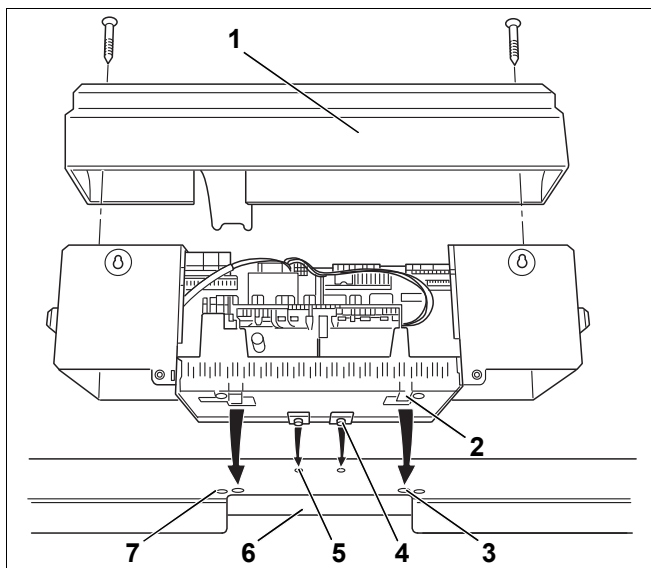
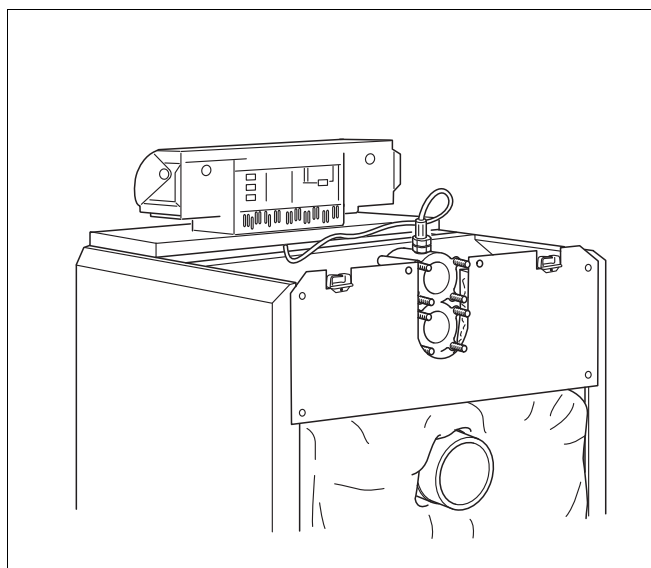

Fig. 43 Control unit installation
Fig. 48 Boiler with control unit installed
Fig. 43 shows the control unit and the front cover as viewed from the rear.
- Loosen both screws (Fig. 43, [1]) securing the terminal cover. Remove the terminal cover by pulling it upwards.
- Mount the control unit. Insert the control unit at the front of the boiler with the locating tabs (Fig. 43, [4]) into the oval apertures of the front boiler hood (Fig. 43, [5]). Pull the control unit forward and then pivot it back. Ensure that the resilient hooks (Fig. 43, [2]) engage at the rear into the rectangular apertures of the front boiler hood (Fig. 43, [3]).
- Secure the control unit base on the r.h. and l.h. side of the cable way (Fig. 43, 6) in the front boiler hood with two self-tapping screws (Fig. 43, [7]).
- Fit the terminal cover (Fig. 43, [1]) with two self-tapping screws and secure on the control unit base (Fig. 48).